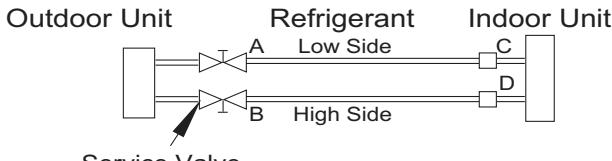

Fig. 5 —Service Valve
3. Fully open the low side of manifold gage (see Fig. 5).